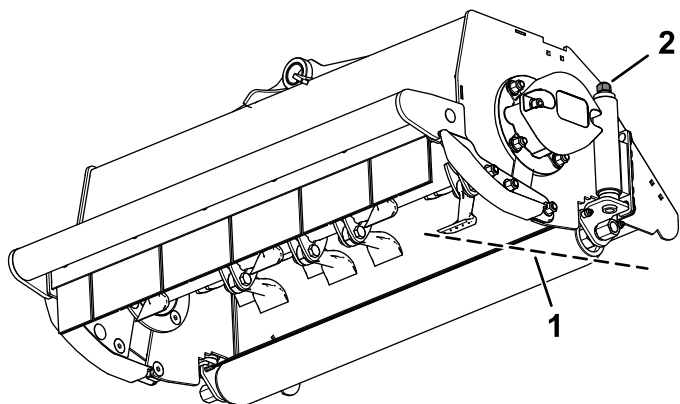

Figure 26
1. Turn the adjusting-nut assembly on both ends clockwise to decrease the height of cut or counter-clockwise to increase the height of cut (Figure 26).